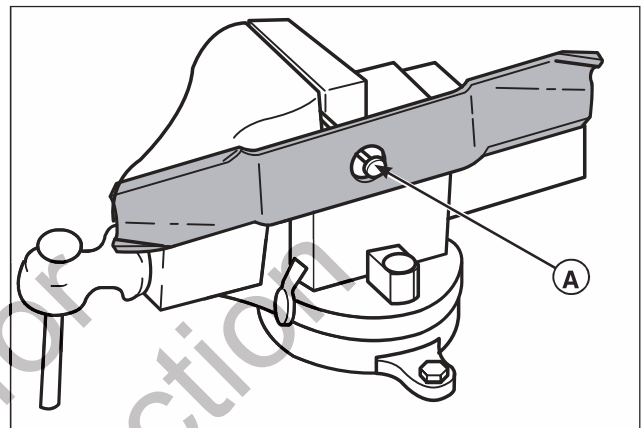

Figure 33. Balancing the Mower Blade
2. See Figure 33. Put the mower blade on a nail in a vise and turn the blade to the horizontal position.